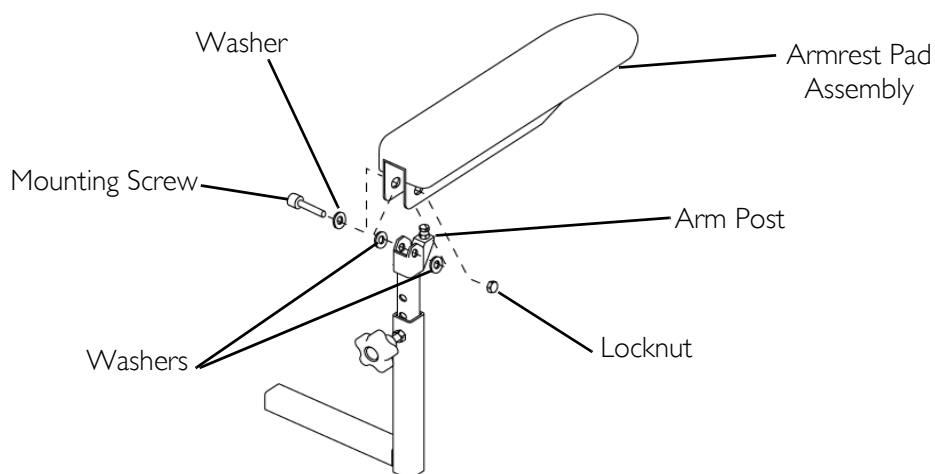

FIGURE 5.3 Replacing Van Seat Armrest Pad Assembly
NOTE: For this procedure, refer to FIGURE 5.3.
3. Position the new armrest pad assembly on the armrest post and secure with the mounting screw, washers, and locknut. Refer to FIGURE 5.3 for correct hardware orientation.